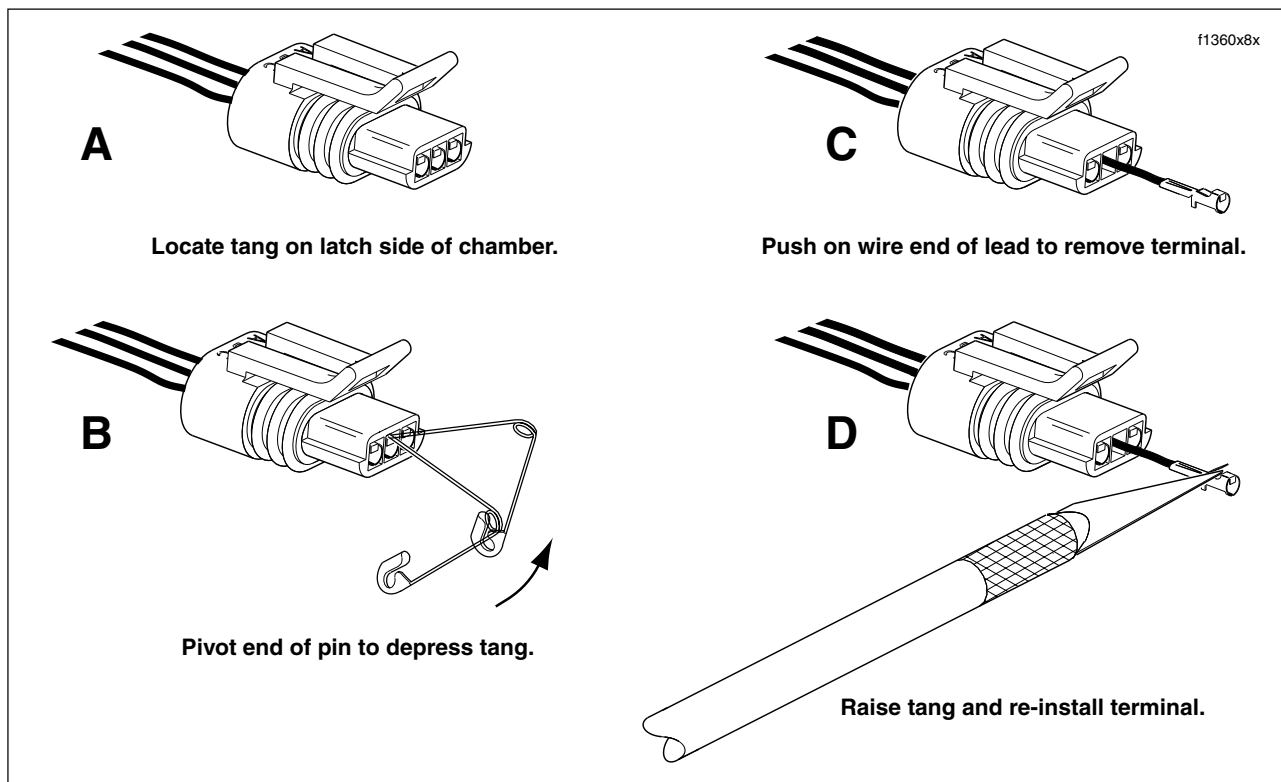
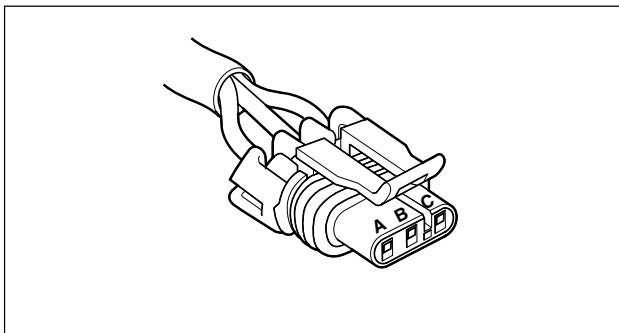

Figure 8-34. Depress Tang and Extract Terminal From Mating End of Connector
Figure 8-35. Packard Pull-to-Seat Terminal Connector With Locking Ear
3. To free a pull-to-seat terminal from the connector housing, first look into the mating end of the connector to find the locking tang. See A in Figure 8-34. The tangs are always positioned in the middle of the chamber and are on the same side as the external latch. On those connectors with locking ears, the tang is on the side opposite the ear. See Figure 8-35.
4. At a slight angle, gently insert the point of a one inch safety pin down the middle of the chamber about 1/8 inch (3.2 mm), and pivot the end of the pin toward the terminal body. When a click is heard, remove the pin and repeat the procedure. See B in Figure 8-34. The click is the sound of the tang returning to the locked position as it slips from the point of the pin. Pick at the tang in this manner until the clicking stops and the pin seems to slide in at a slightly greater depth than it had previously. This is an indication that the tang has been depressed.
5. Remove the pin and push on the wire end of the lead to extract the terminal from the mating end of the connector. See C in Figure 8-34. If necessary, pull back the conduit and remove the wire seal at the back of the connector to introduce some slack in the wires.
- Using a thin flat blade, like that on an X-Acto knife, carefully bend the tang outward away from the terminal body. See D in Figure 8-34.